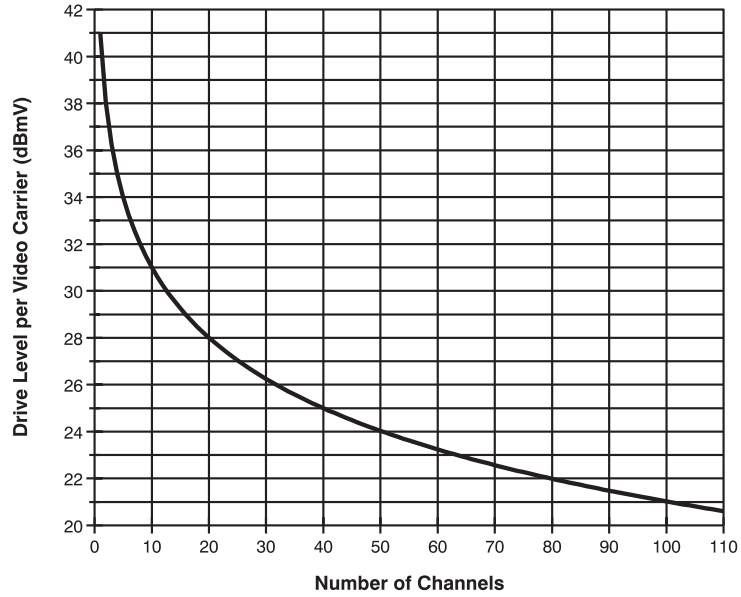
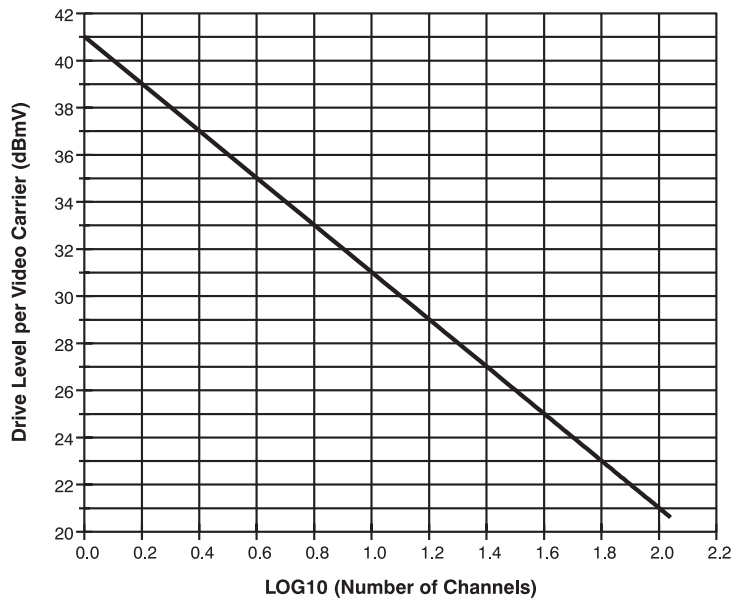

Figure 1.4 Transmitter Level per Channel vs. Number of Channels
Figure 1.5 Transmitter Level/Channel vs. Log 10 (Number of Channels)
- 5) The approximate RF input level is shown in Figures 1.4 and 1.5. Exceeding the RF input level may destroy the transmitter. Set the composite RF input level so that the RF Level indicator LED is green. The RF indicator LED only operates for rated channel loading and a flat input spectrum. Figures 1.4 and 1.5 show the same information, the transmitter level per channel versus the number of channels being transmitted; however, in Figure 1.5 the horizontal scale is changed to a logarithmic scale. This shows that the underlying relationship is linear if plotted against the logarithm of the number of channels.